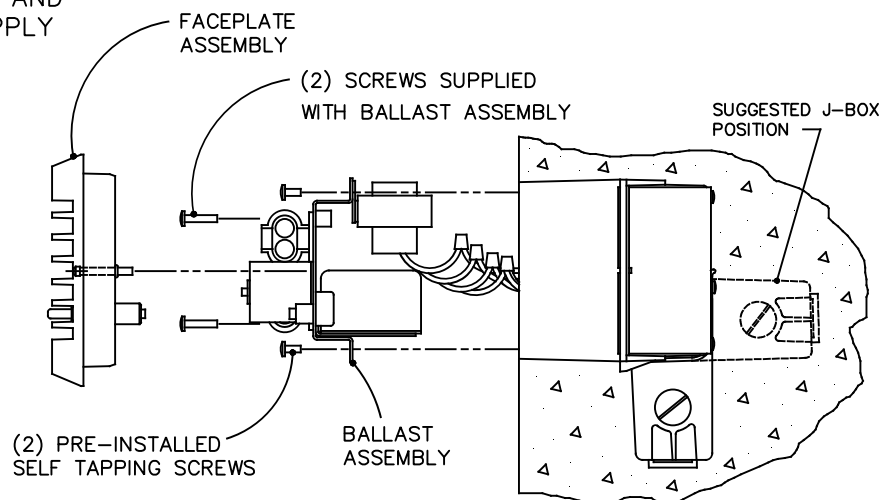

FIG. 3
- 1.INSTALL FACE PLATE WITH MOUNTING SCREWS PER FIG. 3. BE SURE MOUNTING SCREWS ARE SNUG, BUT DO NOT OVER TIGHTEN.